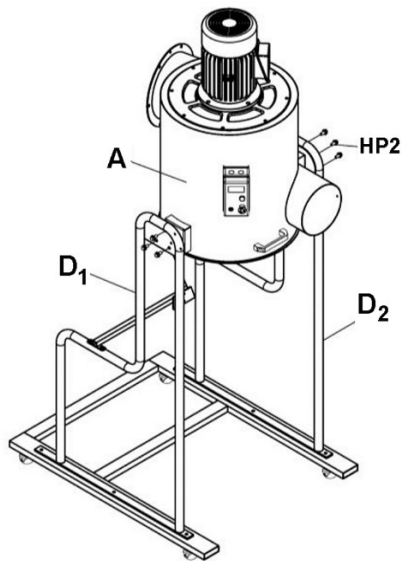

Figure 5
6. Position main housing (A) between left and right stands (D₁,D₂), and secure with flange head screws (HP2). See Figure 5.